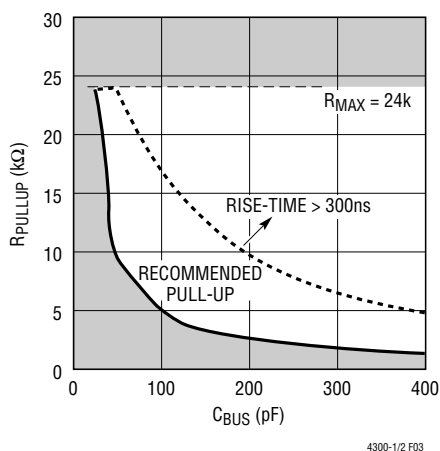

Figure 3. Bus Requirements for 3.3V Systems
**SCLOUT (Pin 2):** Serial Clock Output. Connect this pin to the SCL bus on the card. See Figures 3 and 4 for bus pull-up resistance and capacitance requirements.
**SCLIN (Pin 3):** Serial Clock Input. Connect this pin to the SCL bus on the backplane. See Figures 3 and 4 for bus pull-up resistance and capacitance requirements.
**SDAIN (Pin 6):** Serial Data Input. Connect this pin to the SDA bus on the backplane. See Figures 3 and 4 for bus pull-up resistance and capacitance requirements.
**SDAOUT (Pin 7):** Serial Data Output. Connect this pin to the SDA bus on the card. See Figures 3 and 4 for bus pull-up resistance and capacitance requirements.
In addition, regardless of the bus capacitance, always choose  $R \leq 16\text{k}$  for  $V_{CC} = 5.5\text{V}$  maximum,  $R \leq 24\text{k}$  for  $V_{CC} = 3.6\text{V}$  maximum. The start-up circuitry requires logic high voltages on SDAOUT and SCLOUT to connect the backplane to the card, and these pull-up values are needed to overcome the precharge voltage. See the curves in Figures 3 and 4 for guidance in resistor pull-up selection.
The LTC4300 I/O connection circuitry requires a minimum capacitance loading on the SDA and SCL pins in order to function properly. The value of this capacitance is a function of  $V_{CC}$  and the bus pull-up resistance. Estimate the bus capacitance on both the backplane and the card data and clock busses, and refer to Figures 3 and 4 to choose appropriate pull-up resistor values. Note from the
NOTE: APPLICATION ASSUMES BUS CAPACITANCES WITHIN "PROPER OPERATION" REGION OF FIGURES 3 AND 4
NOTE: APPLICATION ASSUMES BUS CAPACITANCES WITHIN “PROPER OPERATION” REGION OF FIGURES 3 AND 4 4300-1/2 F08
NOTE: APPLICATION ASSUMES BUS CAPACITANCES WITHIN “PROPER OPERATION” REGION OF FIGURES 3 AND 4 4300-1/2 F09